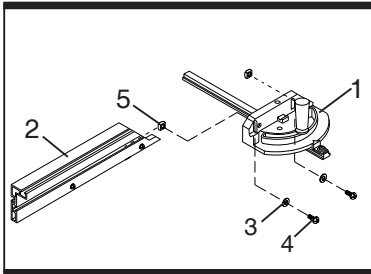

Fig 10
- 1) Attach the square nuts to the mitre gauge with the washers (3) and screws (4).
- 2) Slide the auxiliary fence (2) to the square nuts (5).
- 3) Tighten the screws (See fig. 10).